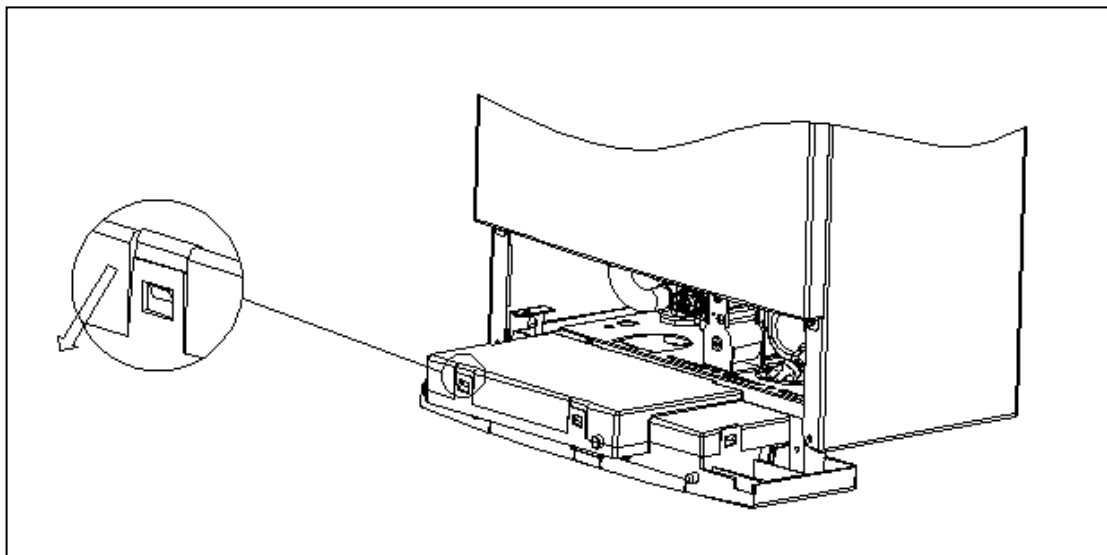

Рис.19
- release the latches on the four sides (fig. 19)